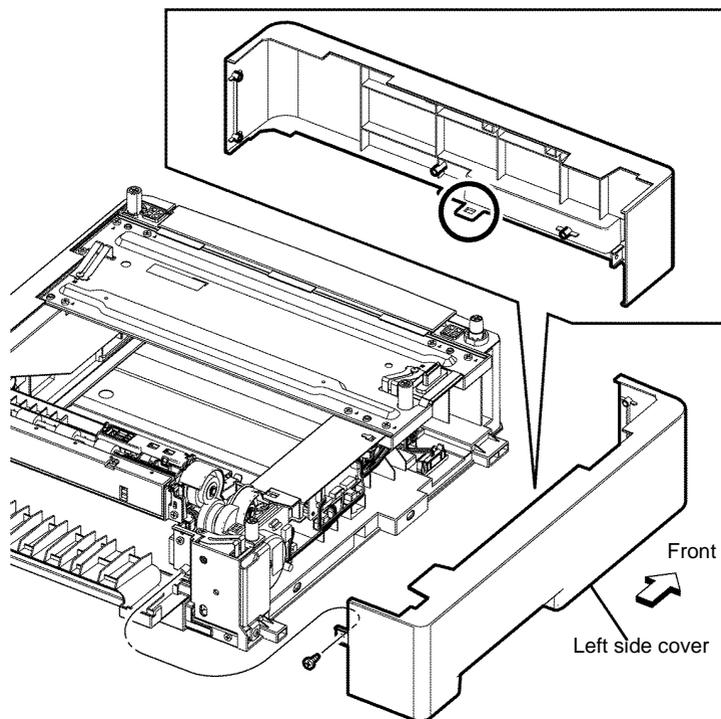

Figure 1 Option feeder left cover removal
3. Remove the one screw (silver, tapping, 8mm) that fixes the option feeder left cover, release the one hook from the boss, release the six bosses from the holes, then remove the option feeder left cover, Figure 1.